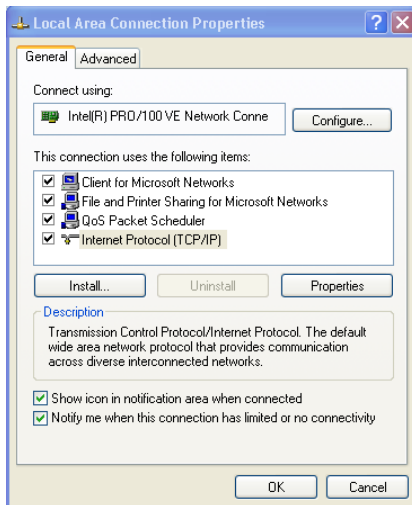

Figure 7: Local Area Connection Properties Window
5. Select the Internet Protocol (TCP/IP) and click the **Properties** Button (see Figure 7).